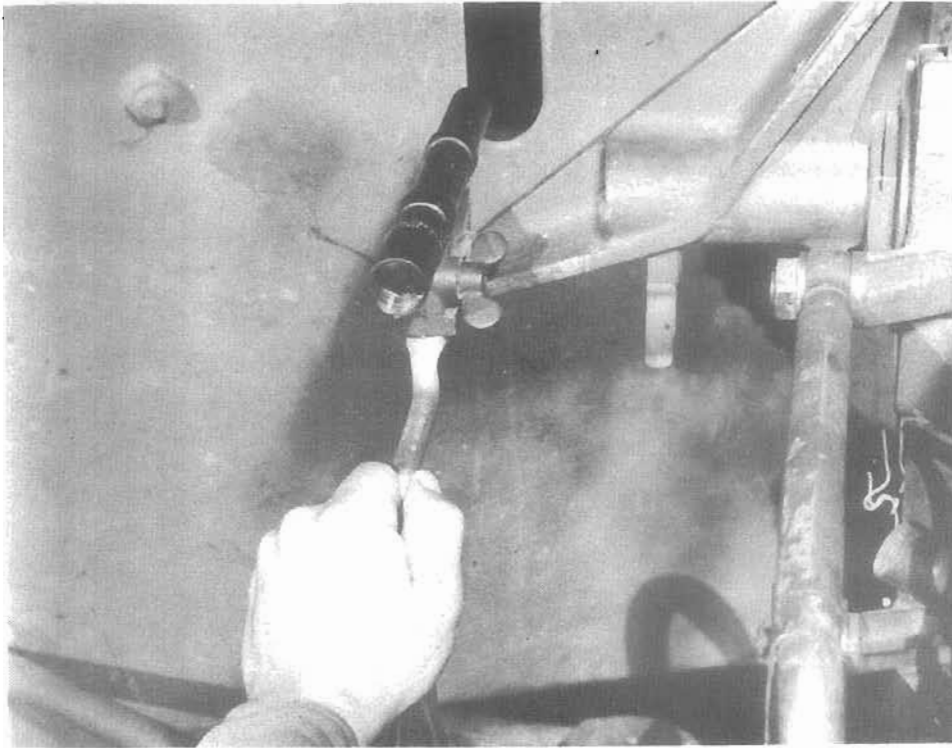

Figure 49
- (b) To aline zero lead line, loosen telescope holder locking bolt. Turn eccentric until zero lead line is on proper part of aiming point. Tighten telescope holder locking bolt; recheck sight and tube (fig. 49).